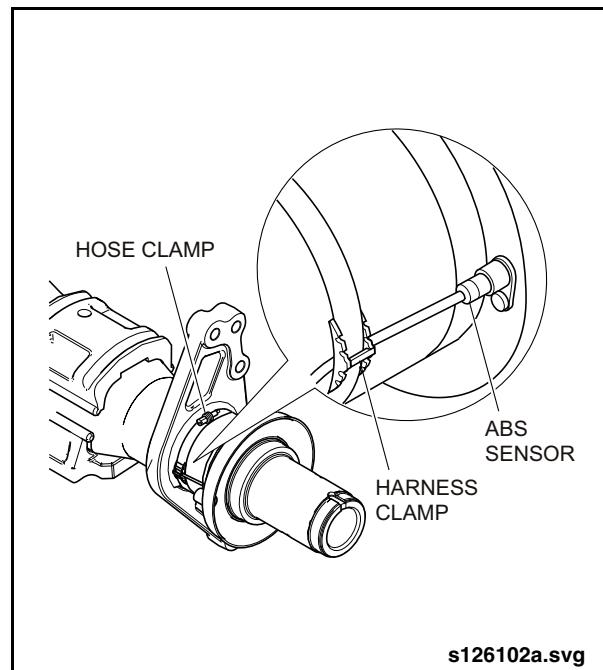

Fig. 2-143: Removing ABS Sensor Harness Clamp
3. Mark the position of the ABS sensor harness hose clamp. See "Fig. 2-143: Removing ABS Sensor Harness Clamp" on page 126.